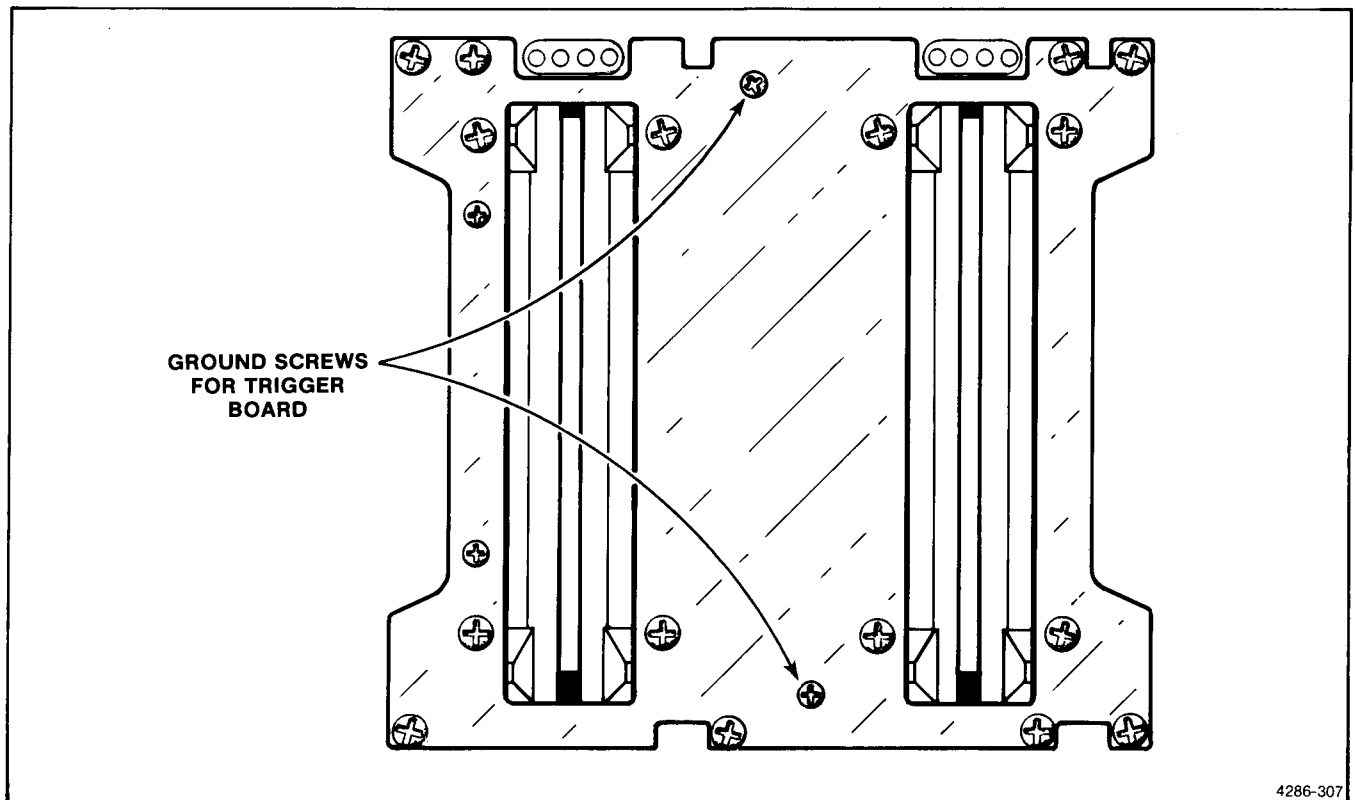

Figure 3-25. Trigger Board ground screws.
2. Remove the two screws and nuts that fasten the two ground leads to the rear panel. See Figure 3-25.